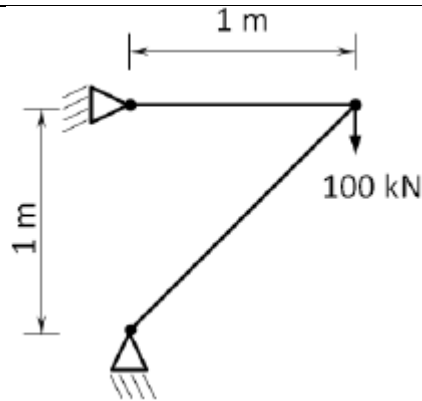

Fig. 4
- b) For the two-bar truss shown in Fig. 4, construct the finite element model. Determine the nodal displacements and compute the element forces.